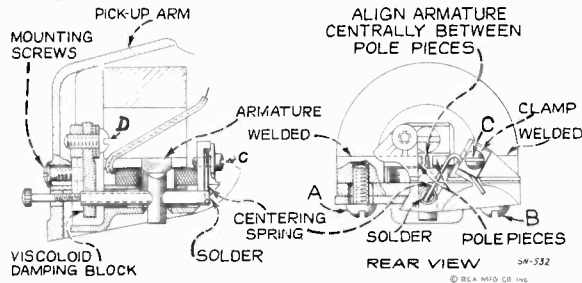
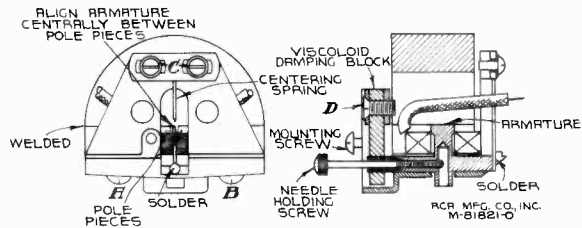
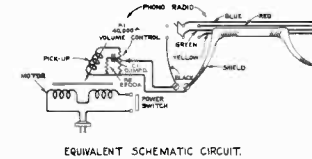

Figure 1—Details of Pickup
Figure 2—Details of Pickup
Figure 3—Wiring Diagram and Equivalent Schematic Circuit
2. (Record Player Switch Jumpers)—Some record player switches do not have jumpers J1 and J2 (see figure 3) attached. When the switch is so connected and turned to phonograph position, the voltage developed by the pickup is fed into the radio receiver through the green wire and shield, and at the same time the yellow wire is connected to shield. The jumpers J1 and J2 permit the yellow lead to kill radio by connection to shield. The jumpers should be removed where the yellow lead connects in such a position as to short bias batteries, etc. Check the switch to be used for the method chosen and use the jumpers accordingly. Correct jumper connections are indicated in "RCA Victor Receivers—Details of Lead Connections" of this booklet.
Refer to figure 1 showing the pickup inner structure. The armature is shown in its proper relation to the magnet pole pieces, i. e., exactly centered. Whenever this centering adjustment has been disturbed it will be necessary to remove the pickup mechanism from the tone arm by removing the needle holding screw and the two mounting screws from the front of the tone arm, holding the pickup assembly to keep it from dropping. Unsolder the two leads from the lugs on the terminal board at the rear of the pickup. Insert a small rod or nail into the armature needle hole and replace the needle holding screw, tightening it to hold the rod securely. If the armature clamping screws A and B have not been disturbed, screw or screws C should be loosened which will per-
The cabinet of the Model R-93-A is similar to that of the Model R-93 Walnut finish. This model incorporates an acoustic compensated volume control, see figure 3. Model R-93-A (first production) and Model R-93-A (second production) differ only in the pickup construction, the essential difference being in the armature centering spring and spring clamps. Reference to pickup details, figures 1 and 2 will reveal the fact that the armature centering spring is respec-
tively "V" and "T" shaped for the Model R-93-A (first and second productions). Refer to "Model R-93 (third production)" and figures 1 and 2 for pickup adjustments.
records. This model incorporates an acoustic compensated volume control, see figure 3. An improved type of pickup is used, the construction of which is illustrated in figure 2. Refer to "Model R-93 (third production)" and figure 2 for pickup adjustments.